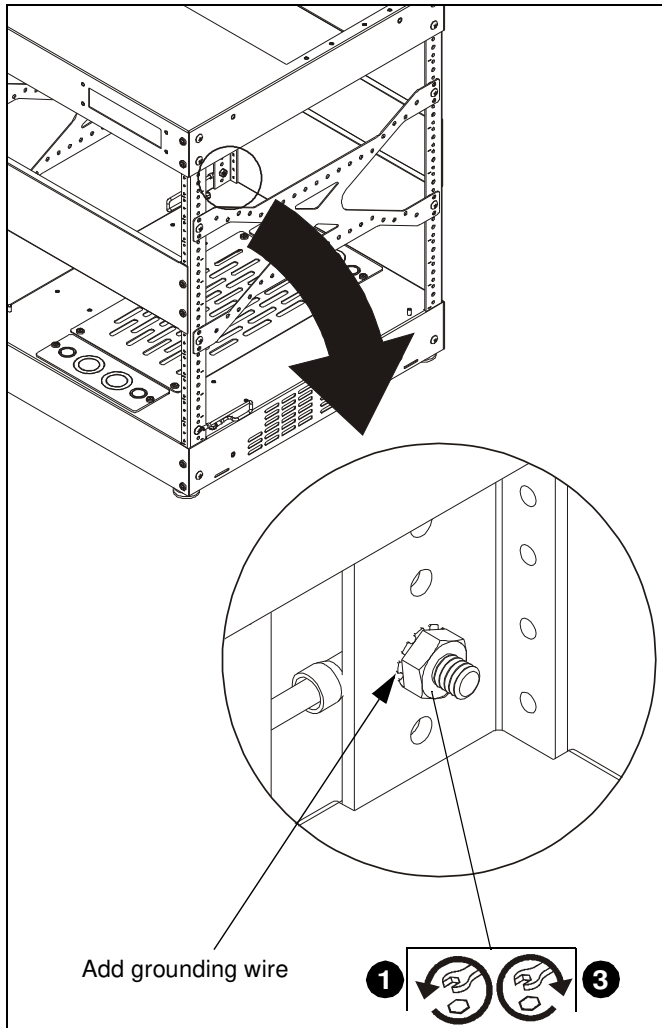

Figure 8
1. Remove and save 1/4" nut from the grounding lug on rack rail. (See Figure 8)
2. Attach grounding wire from door to the grounding lug. (See Figure 8)
3. Replace and tighten nut onto grounding lug. (See Figure 8)